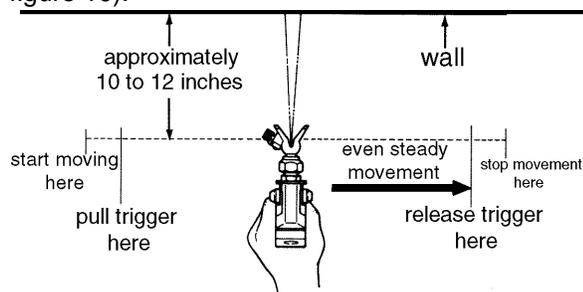
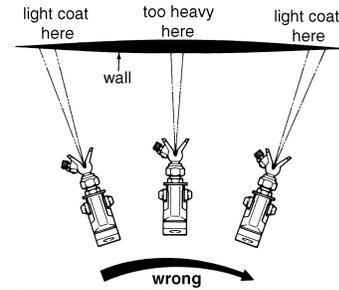

Figure 9. - Proper way to trigger spray gun.
Figure 10. - Result of flexing wrist while spraying.
- 2) **Move with a smooth arm stroke.** Move the gun at a steady even pace while keeping the gun perpendicular to the surface. (See figure 9) Do not move the gun by flexing your wrist. Fanning the gun will cause excessive overspray and uneven coverage. (See figure 10).